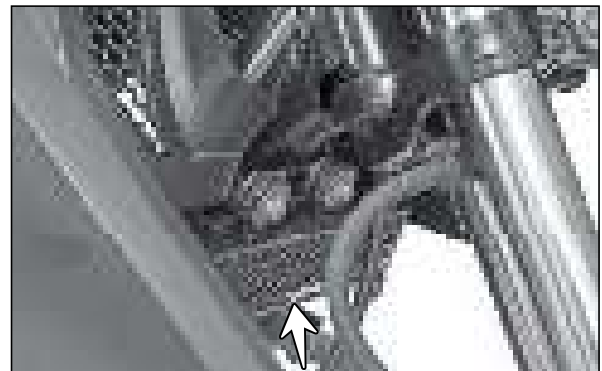

Fig. 4.43
- The oil cooler assembly is mounted on the frame below the fuel tank near the steering head column. (Fig. 4.43)